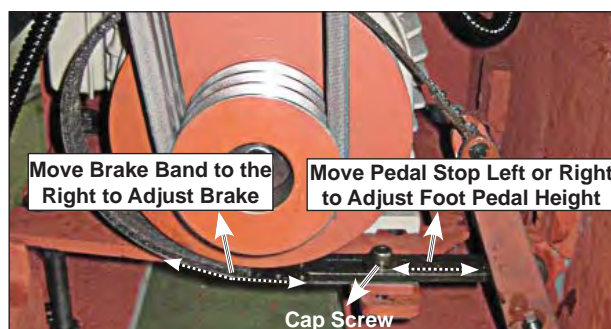

Figure 94. Brake linkage adjustments.
5. Remove pedal stop shown in Figure 94.